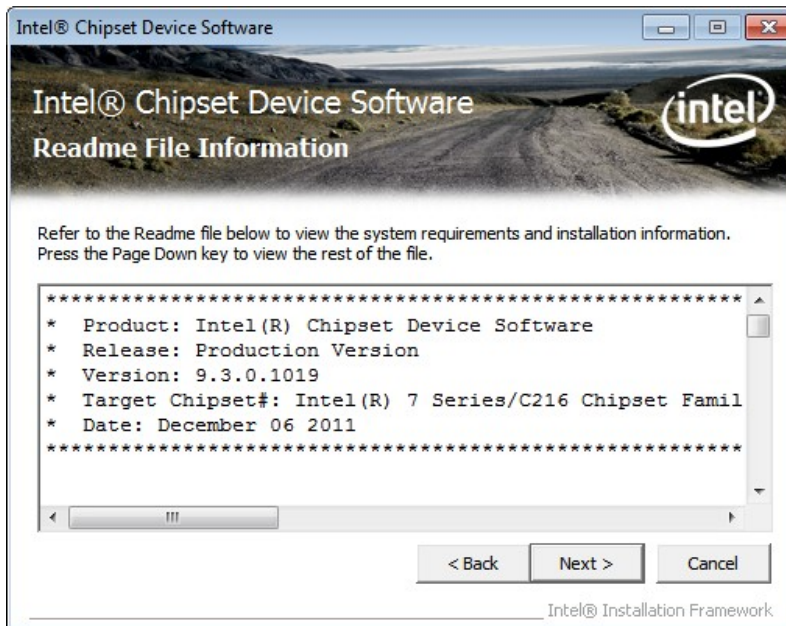

Figure 6-3: Chipset Driver Read Me File
Step 8: The Read Me file in **Figure 6-3** appears.